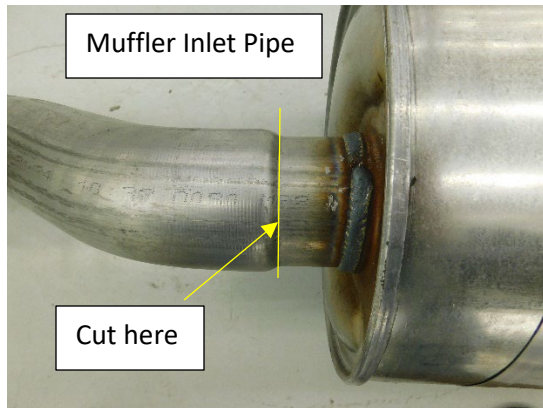
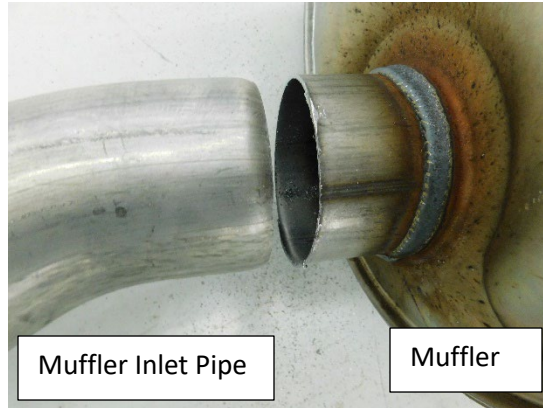

Figure.3
Figure.4
1. Cut the muffler Inlet pipe leaving the step down as shown in **Fig.3** and **Fig.4**